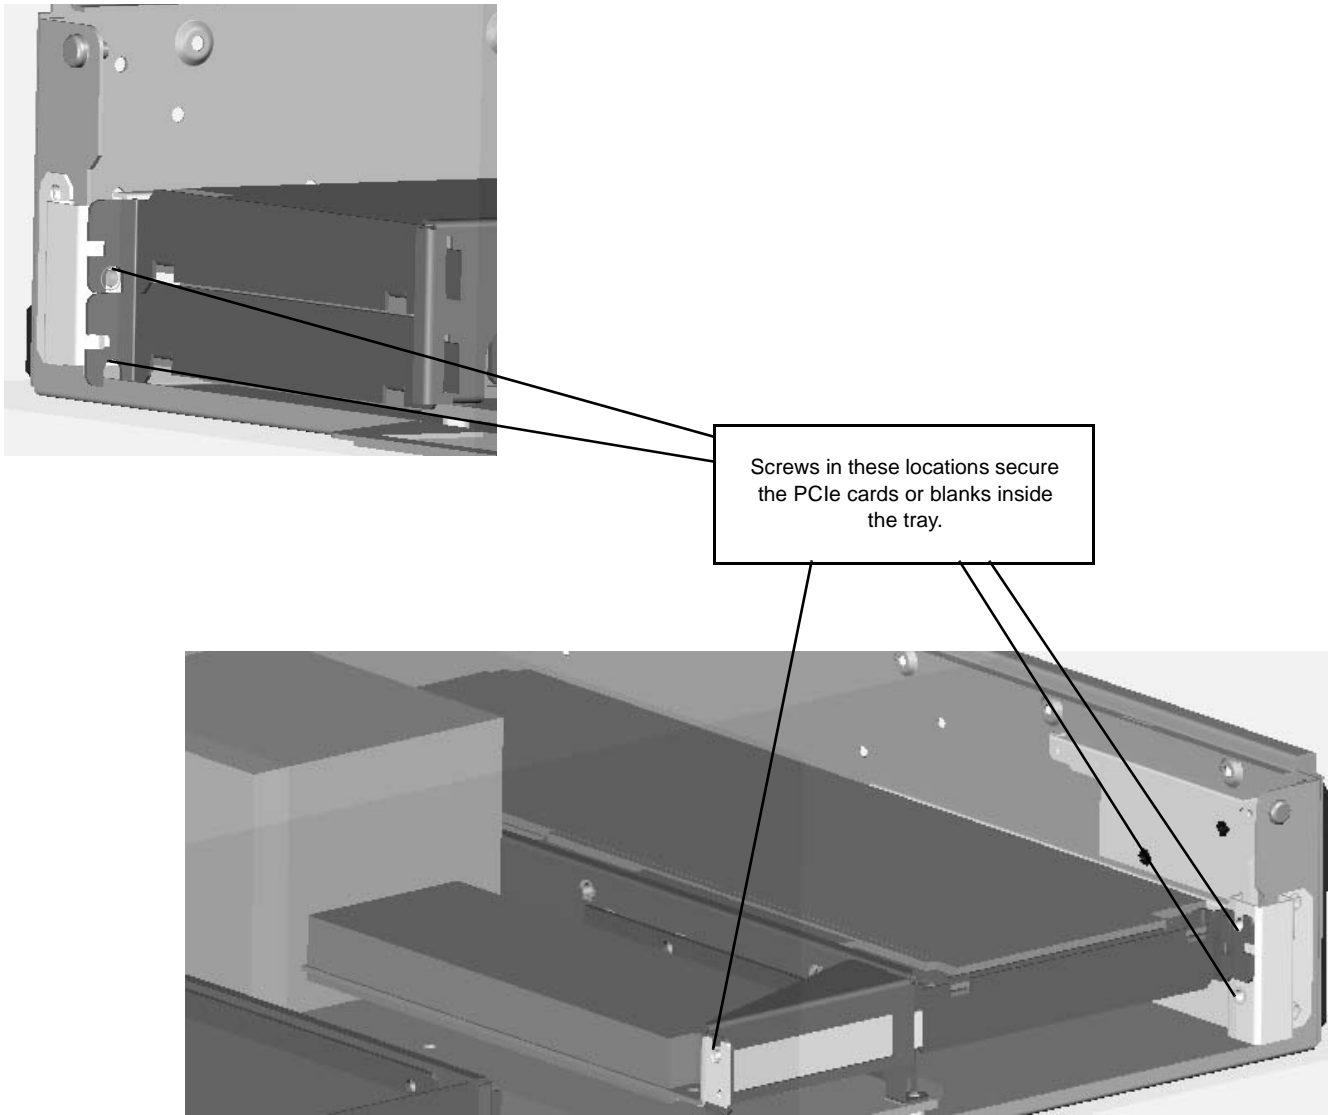

Figure 1-9 Locations of Screws that Secure PCIe Cards
4. If the PCIe slot that you want to use is empty, remove the screw that secures the PCIe blank and the PCIe blank; refer to Figure 1-9.
If the slot contains a card that needs to be replaced, remove the screw that secures the PCIe card and remove the card from the slot; refer to Figure 1-9 on page 30.
6. Secure the PCIe card with a screw; refer to Figure 1-9 on page 30.